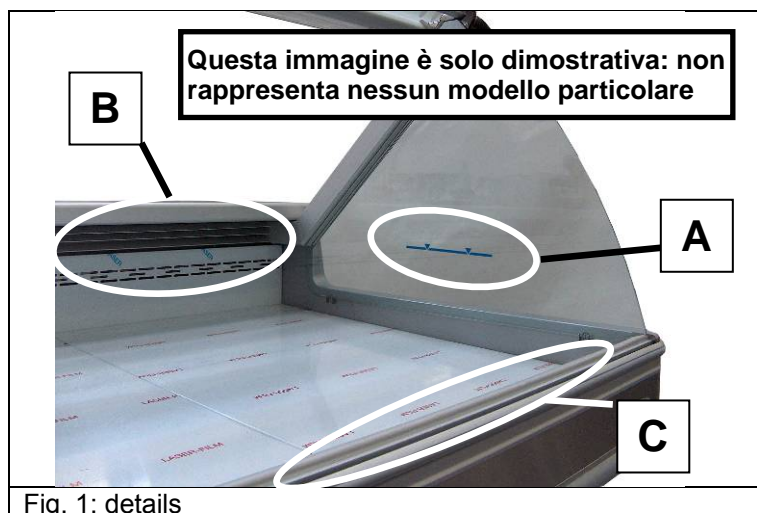

Fig. 1: details
- ◆ Base or pallet (fig. 1)
- Never exceed the load limit line “A” affixed on the side glazing (fig. 1)
- Do not block air outlet slots “B” or air return slots “C” (fig. 1)